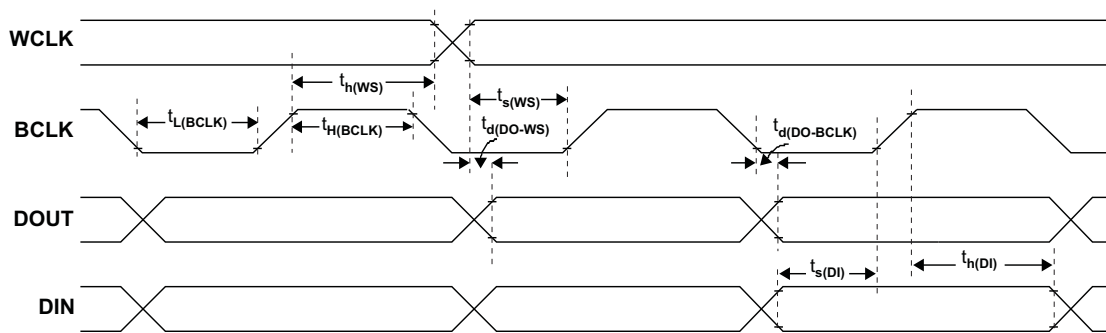

Figure 3. I²S/LJF/RJF Timing in Slave Mode
8.14 I²S/LJF/RJF Timing in Slave Mode (see Figure 3)